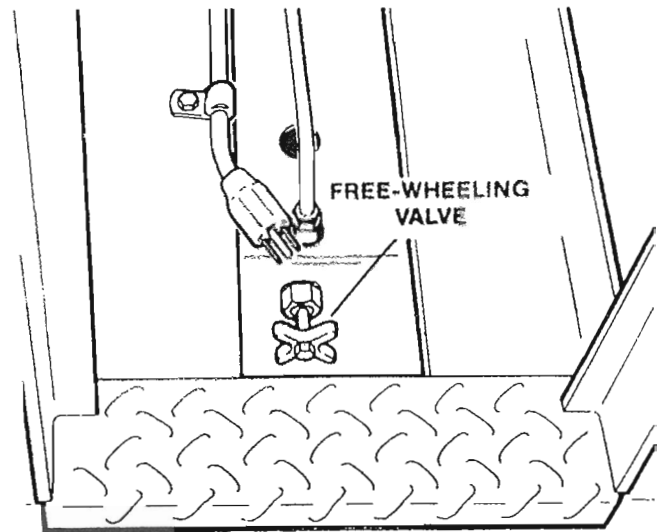

Figure 6. Free-Wheeling Valve
**FREE-WHEELING VALVE.** This valve is located on the rear axle housing; midway between the drive-wheel(s). A "tee-type" handle opens or closes the valve. When opened it permits hydraulic fluid to flow through the drive-wheels. This provides "free-wheeling" so the unit can be towed or pushed without rupturing motor seals. Moving the work platform or rolling it up or down an incline with the free-wheeling valve closed will destroy the wheel motors. The valve must be closed for normal operation, and opened when towing. When towing do not exceed 2 mph (figure 6).
5. Be sure that Free-Wheeling Valve is closed (see figure 6).